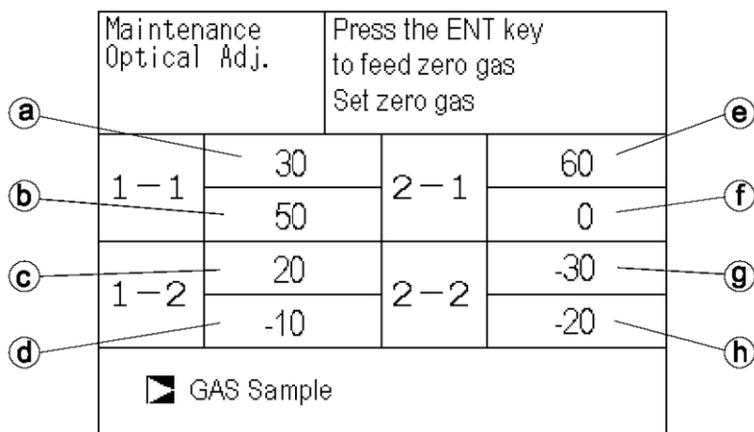

Figure 4-7: Optical Adjustment Display for Dual Optical System Option
- Proceed to an optical adjustment as described in the maintenance mode. The display on the operation panel of the main unit is illustrated in Figure 4-7. Balance adjustment is not required if the display falls within ± 100 .